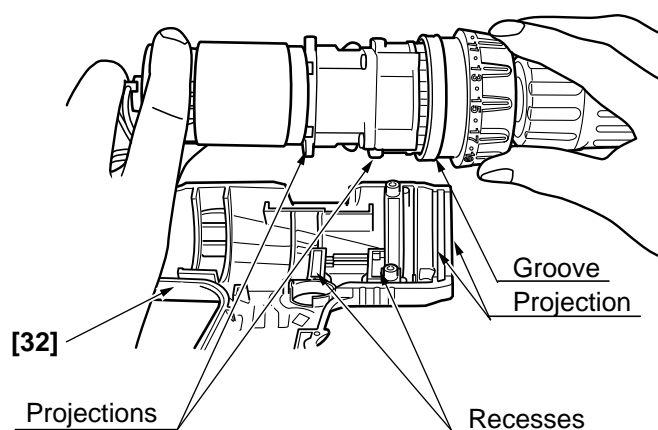

Fig. 13
(b) Install the assembly reassembled in step (3) into Housing (A) **[32]**. Note that the projections on the Front Case **[9]** and the Motor Spacer **[27]** are engaged in the recesses in Housing (A) **[32]**, and the projection on Housing (A) **[32]** is engaged in the groove of the Cap **[4]**. (See Fig. 13.)